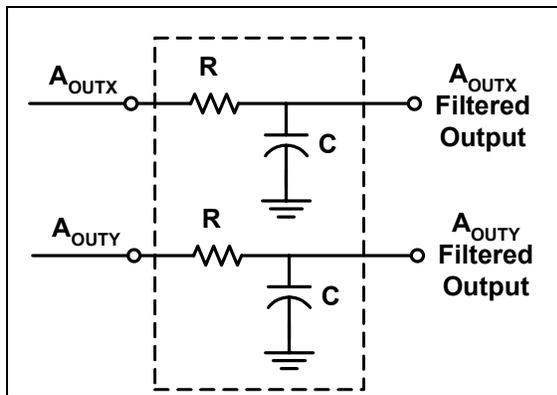

Figure 4: Low Pass Filter
**Low Pass Filter:** An external low pass filter is useful in low frequency applications such as tilt or inclination. The low pass filter limits the noise floor and improves the resolution of the accelerometer. The low pass filter shown in Figure 4 has a -3dB breakpoint given by the equation:  $f = 1/2\pi RC$ . For the 200 Hz absolute output device filter,  $C=0.2\mu\text{F}$  and  $R=39\text{k}\Omega$ ,  $\pm 5\%$ ,  $1/8\text{W}$ .